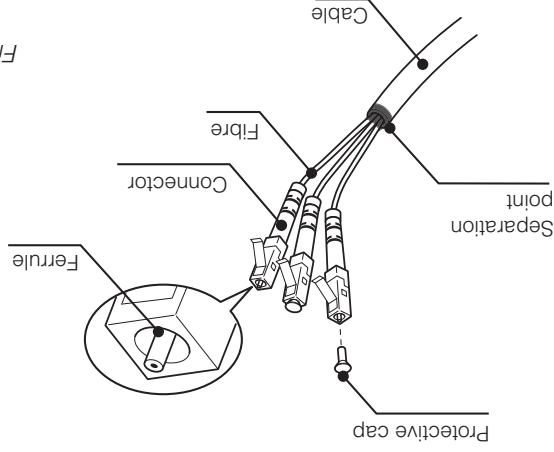

Fig. 7
- The individual optical cables are delicate: always handle the main cable without touching the individual cables (Fig. 7).